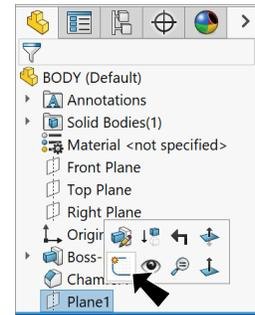

Fig. 18
Step 2. Click **Plane1**  in the Feature Manager and click **Sketch**  on the context toolbar, **Fig. 18**.